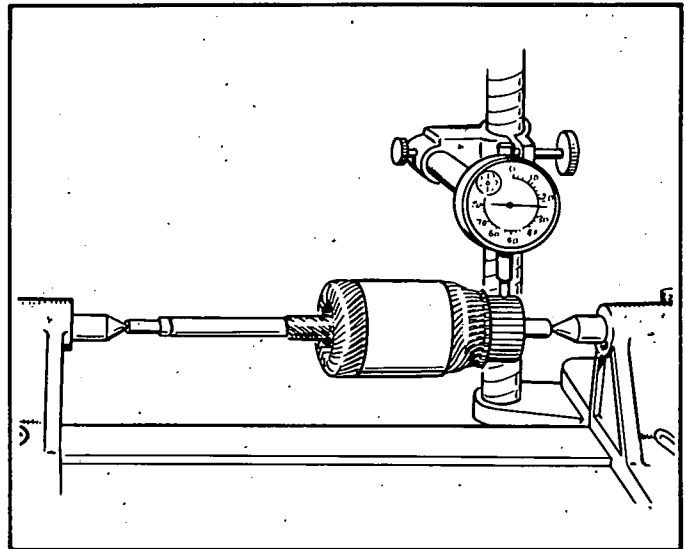

FIGURE 36. CHECKING COMMUTATOR RUNOUT
4. **Testing Commutator Runout.** Place armature in a test bench and check runout with a dial indicator. When commutator runout exceeds .004", commutator should be refaced (Figure 36).